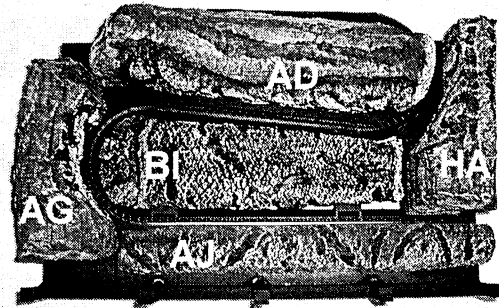

FIGURE 11B
2. Place the 'AD', 'AG', 'HA' & 'AJ' logs into position on the burner cover aligning the holes in the bottom of the logs to the corresponding pins in the burner cover. Figure 11B.